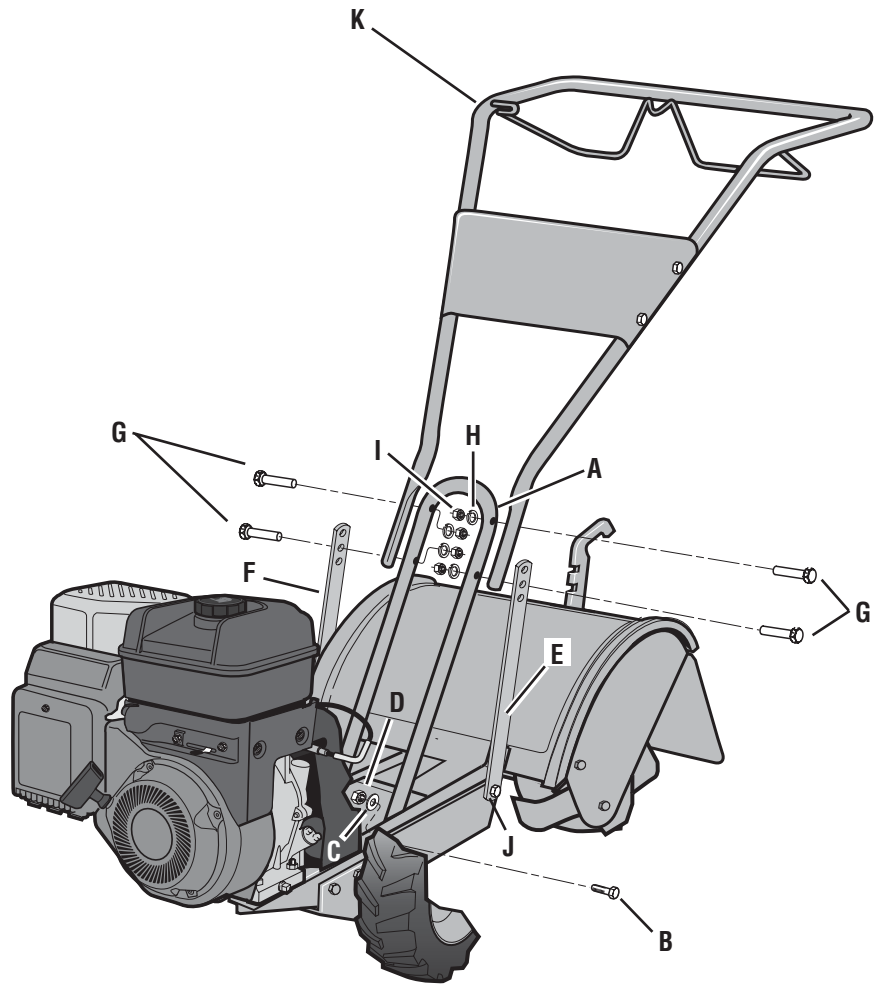

Fig. 2-2: Attach handlebar.
1	Handlebar Support (see A, Fig. 2-2, page 7)
1	Handlebar Assembly (see K, Fig. 2-2)
1. Attach the two legs of the handlebar support (A, Fig. 2-2) loosely to the inner sides of the tiller frame using two 3/8"-16 x 3/4" hex hd. screws (B), two 3/8" flat washers (C) and 3/8"-16 hex locknuts (D).
2. Using using two 5/16"-18 x 1-1/2" hex hd. screws (G), 5/16" split lockwashers (H) and 5/16"-18 hex nuts (I), loosely attach the the handlebar support (A) using the upper holes.
3. There are three height adjustment holes in the two handlebar support brackets. E & F, Fig. 2-2). Use a setting that will position the handlebars at approximately waist level when the tines are 3"-4" into the soil. Loosely attach the handlebar support brackets **to the outside** of the handlebar assembly (K) using two 5/16"-18 x 1-1/2" screws (G), 5/16" split lockwashers (H) and 5/16"-18 hex nuts (I).